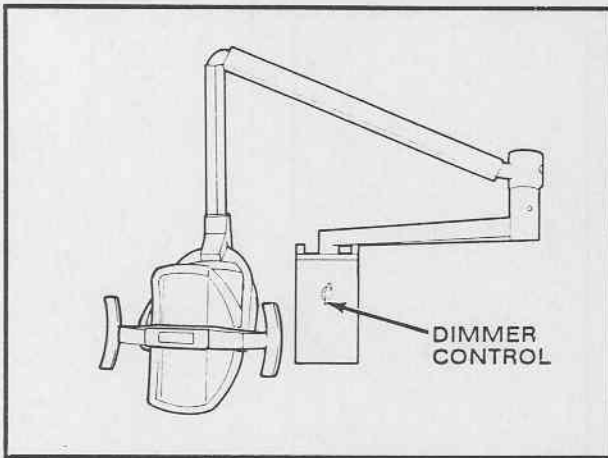
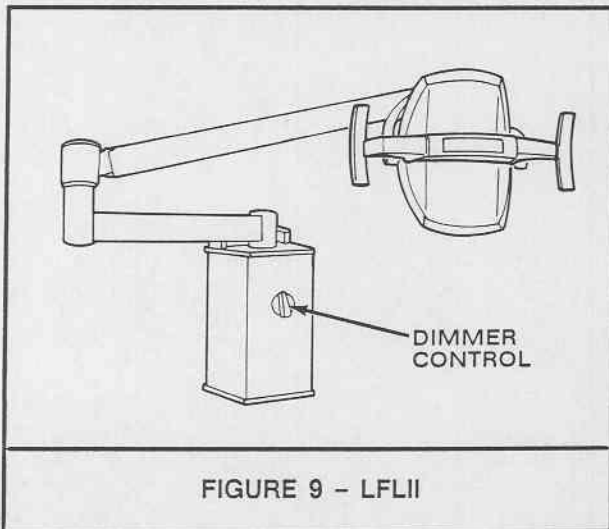

FIGURE 8 - LFWII
FIGURE 9 - LFLII
**1.19 The LFWII (Figure 8) and LFLII (Figure 9)** are wall mounted dental lights with the dimmer controls located on the mounting box.
**1.22 Dimmer Control (Figure 8 and Figure 9)**—The dimmer control is located on the front of the mounting box. It can be adjusted to three levels of intensity. The LO, MED and HI settings provide approximately 1500, 2000 and 2500 footcandles of light intensity, respectively.